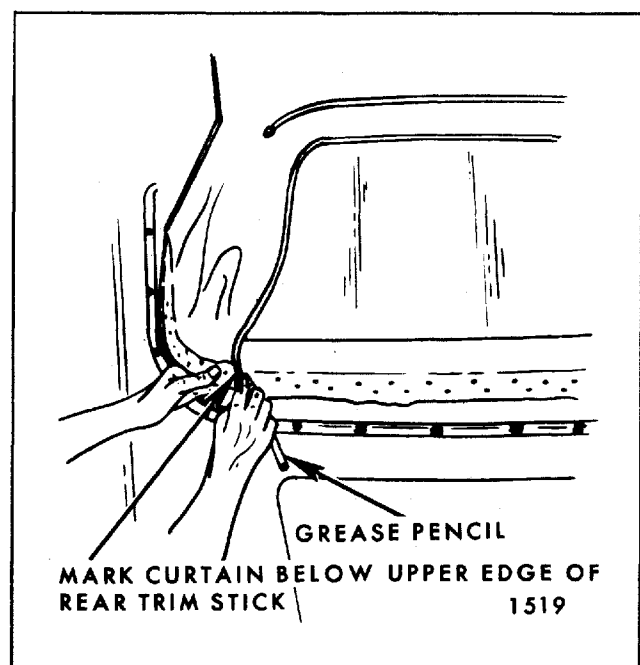

Fig. 6-7—Locating Edge of Top Material
20. To establish relationship of right and left inner vertical edge of old top material to back curtain assembly at rear trim stick location, mark back curtain material at both locations with a grease pencil (Fig. 6-7). Reference marks should be transferred to new back curtain when step 6 of installation procedure is performed.